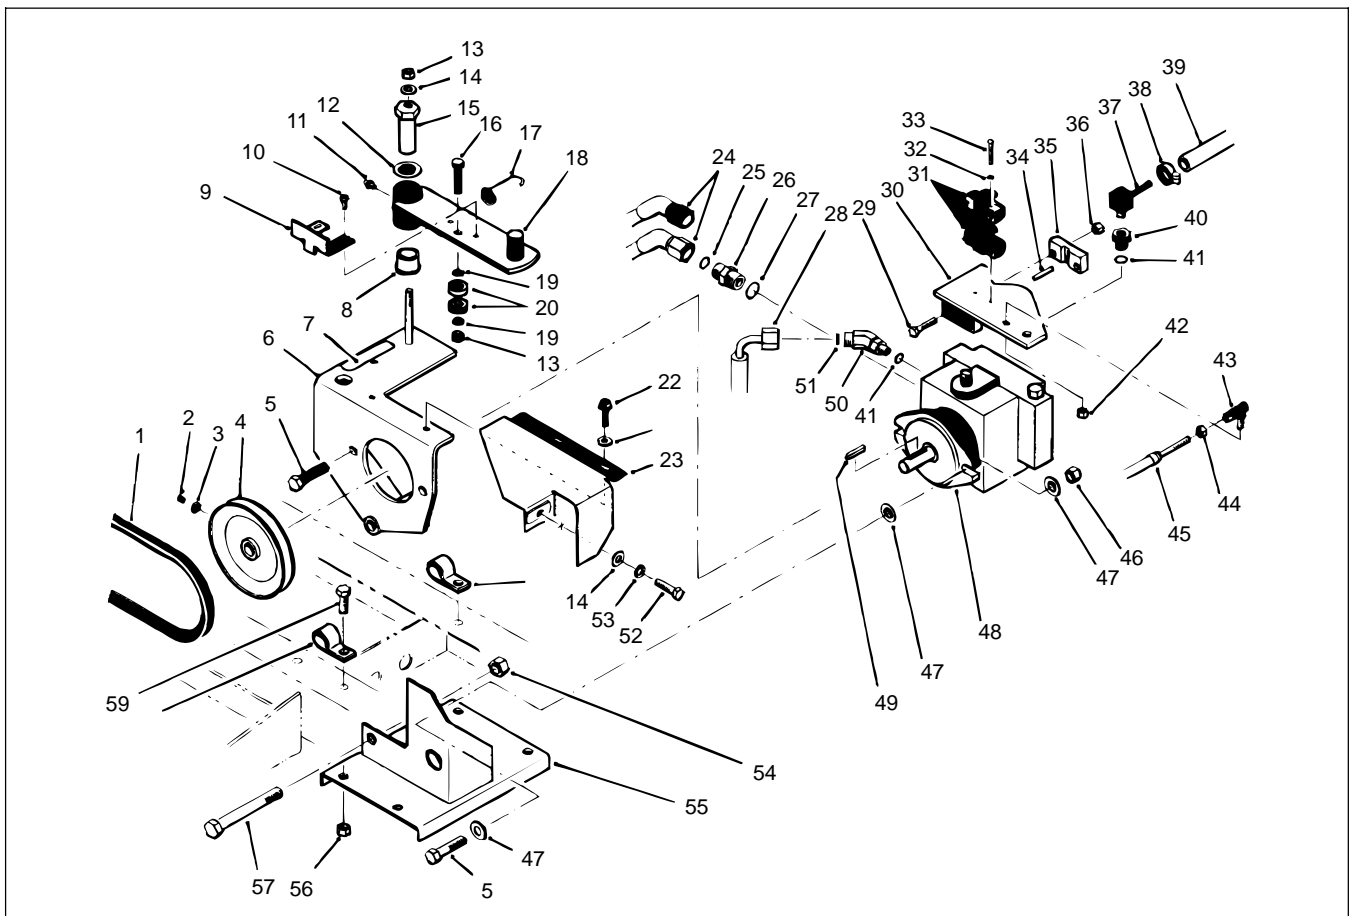

Figure 20
C. Loosen three (3) capscrews securing pulley guard bracket (Fig. 20, Item 21) to control panel and pump support.
E. Tighten pivot nut. Tighten three (3) capscrews securing pulley guard bracket.
2. Remove pulley guard bracket (Fig. 20, Item 21).
## Hydraulic Pump Removal and Installation (Fig. 20)